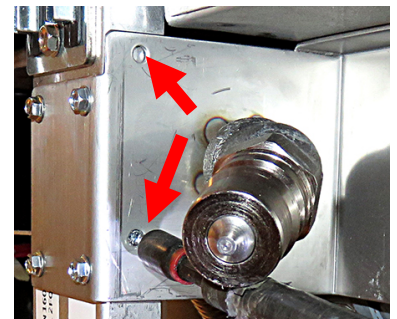

Figure 20
22. Attach the bracket to the frame with the pre-drilled holes in step 12 (see Figure 19). Ensure **EVERY** hole in the bracket is used. The holes on the inside of the left side of the bracket (see Figure 20,) keep the bracket from pulling away from the frame, when the wand is attached and detached.